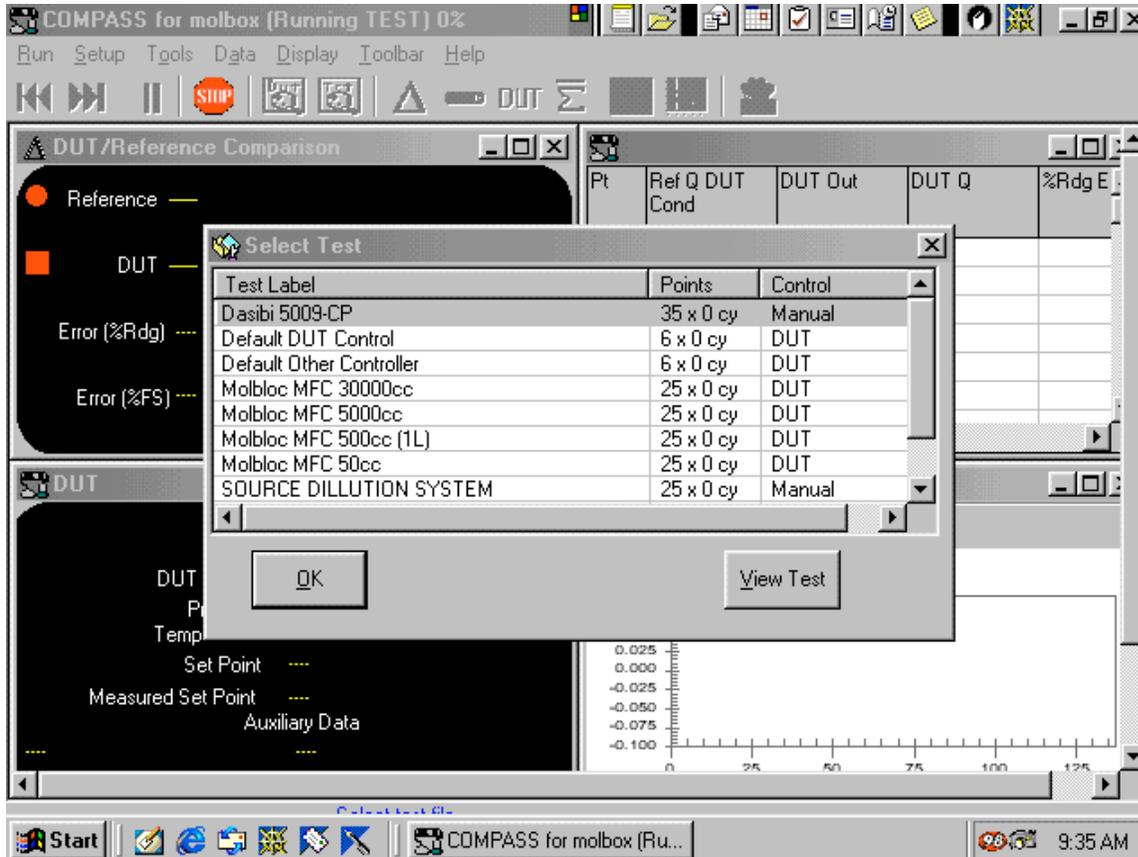

Figure 22 - Select test profile
11.4.4 Select the test profile that represents flow range of your DUT (See figure 22).